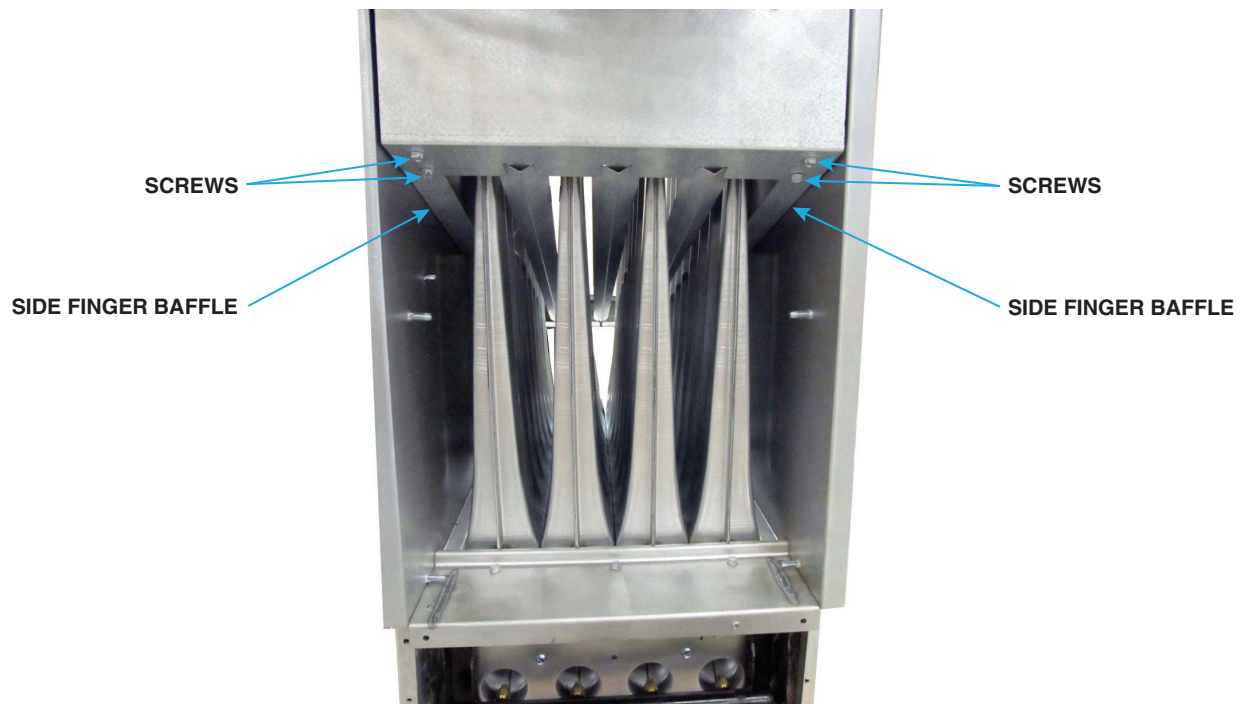

Figure 4. Side Finger Baffle Removal
2. Remove side finger baffles on unit sizes 125–400 (see **Figure 4**):